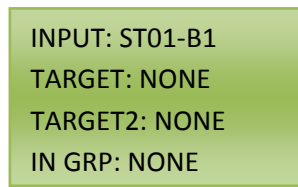

Figure 8.3
- a. If programming the Target as a Scene access will be turned off for certain switches. It functions almost like a lockout for a group of switches. A Group can be turned ON/OFF as a timed event or with a button on a control station by programming that Group through the TARGET. The Target of an input can also be an Input Group. When a Scene is selected as a Target, another Target can be selected if desired. See Figure 8.3 for a visual example.